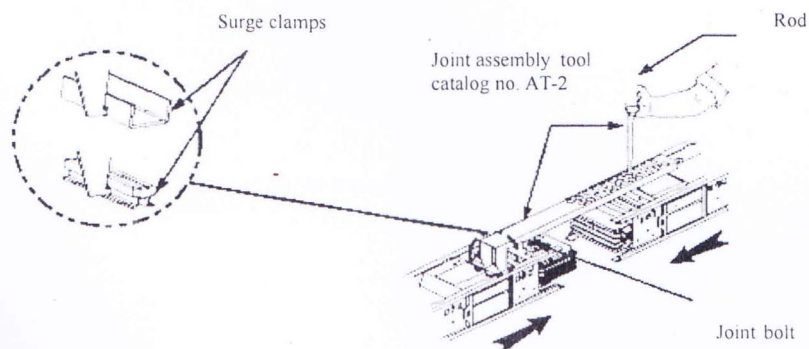

Figure 2: Join the busway lengths
3. With busway ends in position, hook the joint assembly tool into the surge clamp on one length (Figure 2).